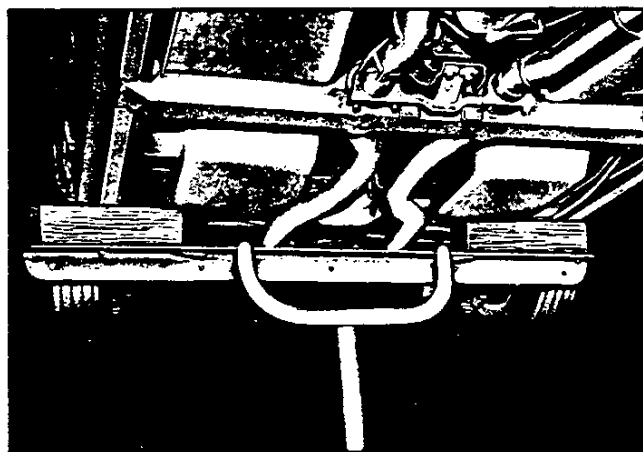

Fig. 6-Frame Lift Adapters-19000 Series
- b. If rear axle work is contemplated, use either suspension adapters or drive-on adapters at the front and frame lift adapters as shown in Figure 6. If frame lift adapters are not available, use jack stands.
NOTE: Wooden blocks, bolted to steel beam shown in Figure 6 are necessary to allow beam to clear exhaust system.